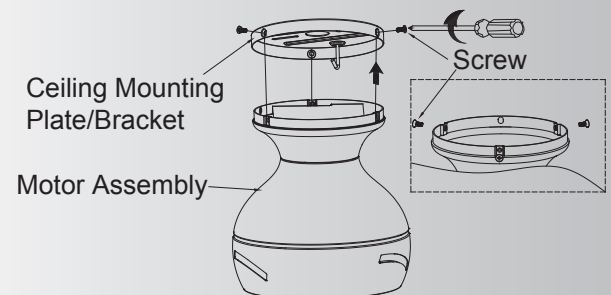

Fig. 10
**Step 1.** Remove the 3 small screws from the motor assembly for later use. Lift up the motor housing on to the Ceiling Mounting Plate/Bracket, align the 3 holes from both parts. Secure the motor housing to the motor bracket by using the 3 small screws removed previously. (Fig. 10)